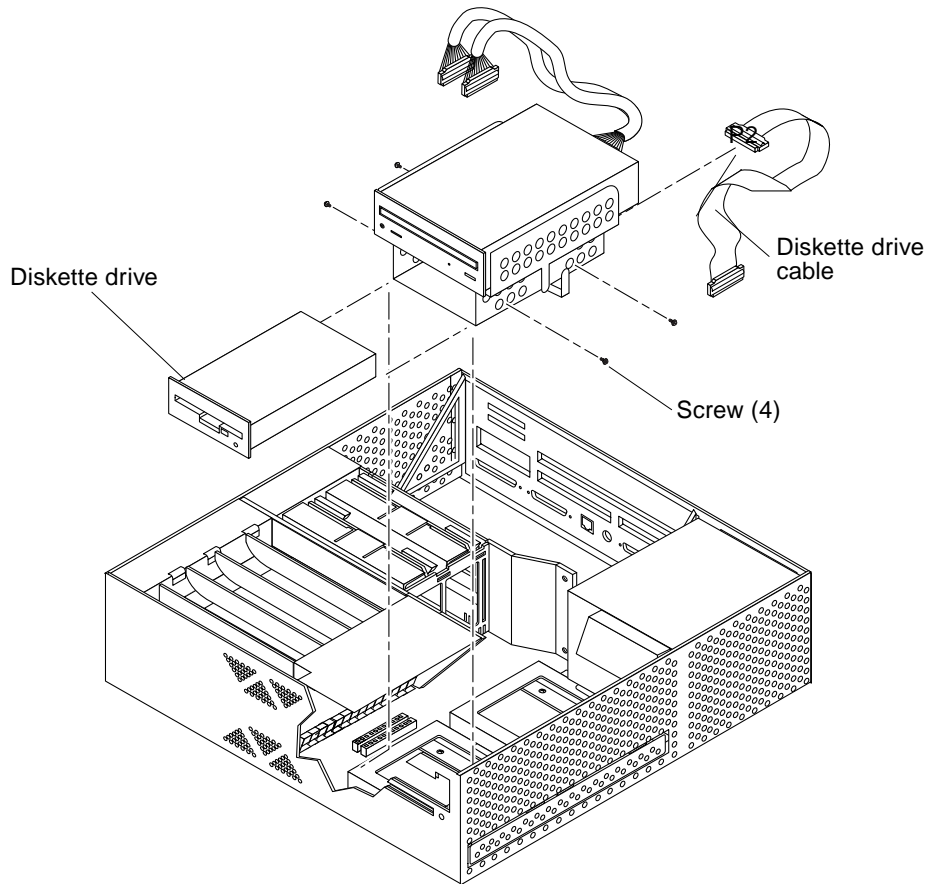

FIGURE 9-4 Removing and Replacing the Diskette Drive
6. Remove the diskette drive as follows (FIGURE 9-4):
1. Replace the diskette drive as follows (FIGURE 9-4):